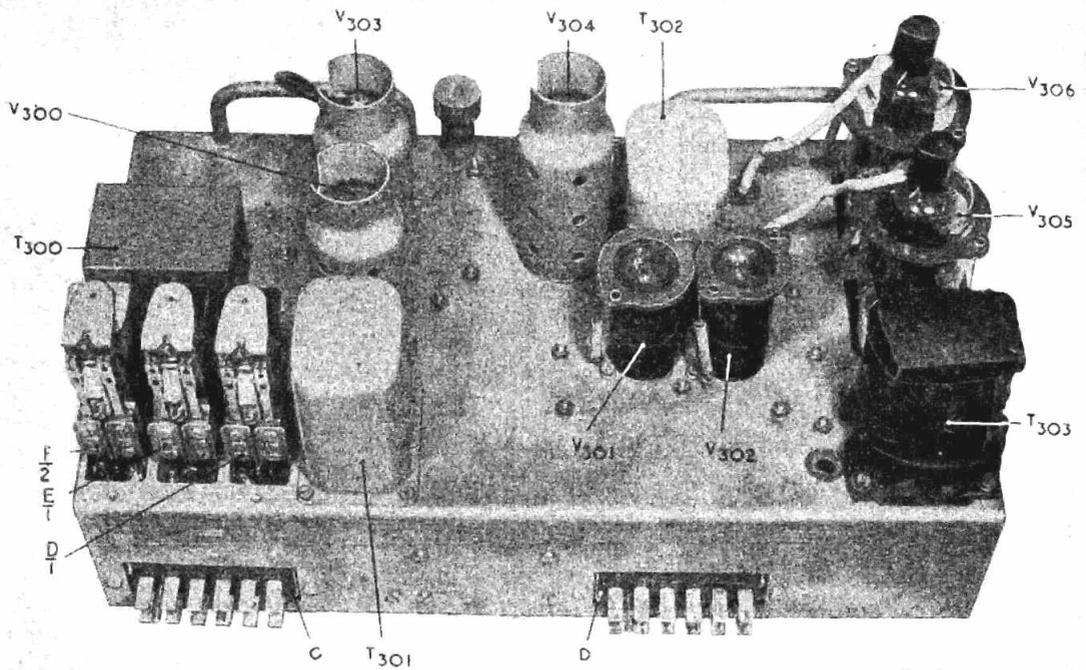

Fig. 28. Top of chassis, amplifier, Type 367
**133.** Two views of the amplifier, Type 367 are given in *fig. 28* and *29*. The amplifier can be removed from the main unit by undoing the thumbscrew seen in *fig. 28* and pulling the unit forward; all connections to the amplifier are made through the plugs C and D, which engage directly with two sockets in the transmitter unit.